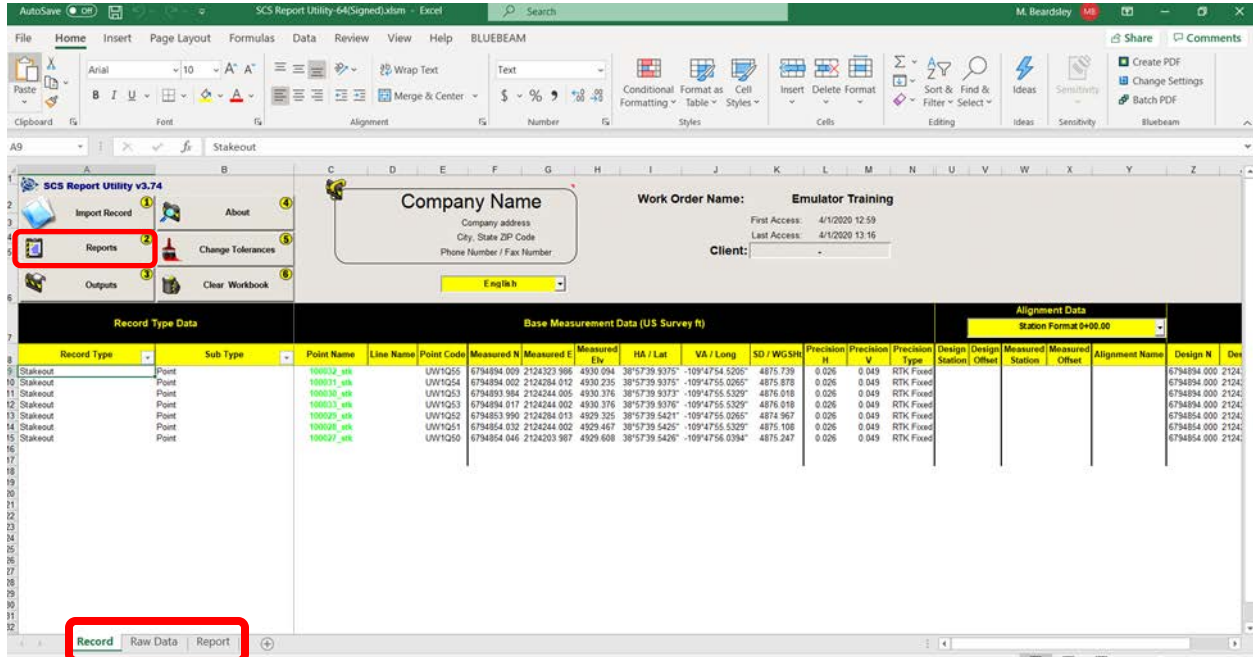

Figure 14. Create Report Tabs in Excel
Step 4: Once this data is opened you may create several new report tabs in the excel file. Create the Stakeout Features Tab, Measured Features Tab, and a custom Tab of Stakeout Features containing “Point Name, Measured Northing, Measured Easting, Measured Grade, Design Elevation, and Cut/Fill”. All 3 tabs will be created at the bottom of the excel file (Figure 14).